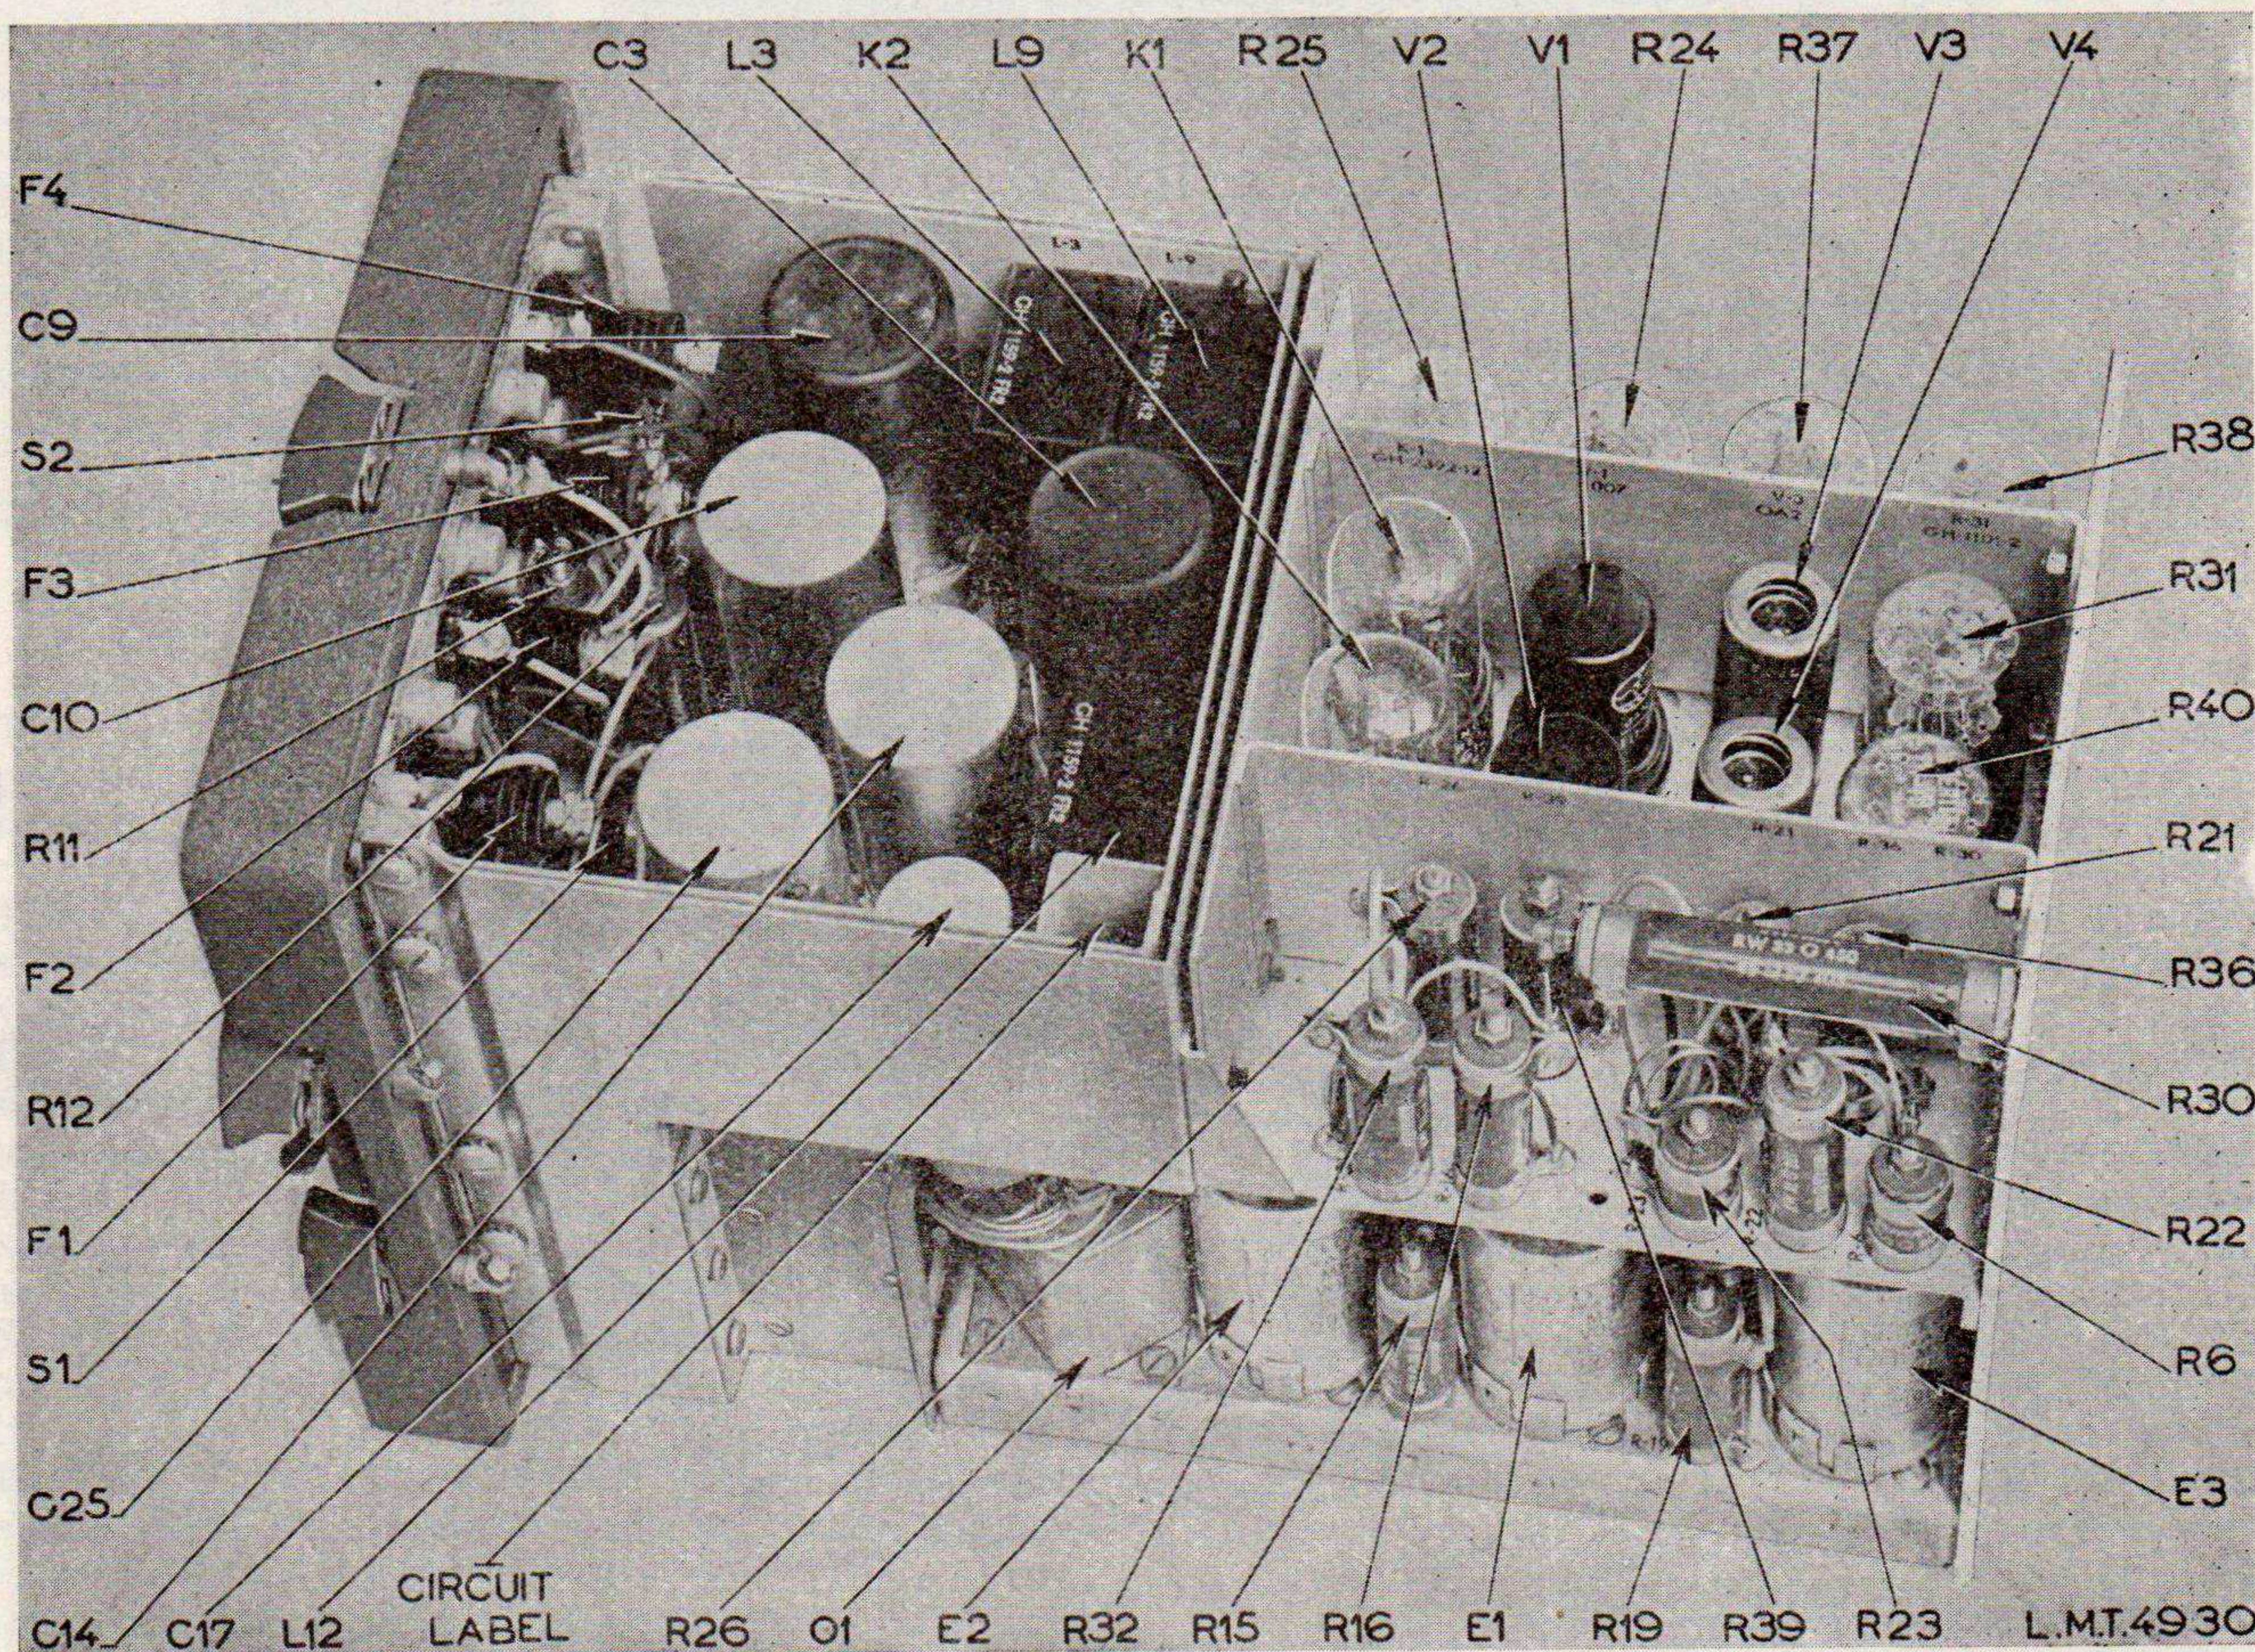
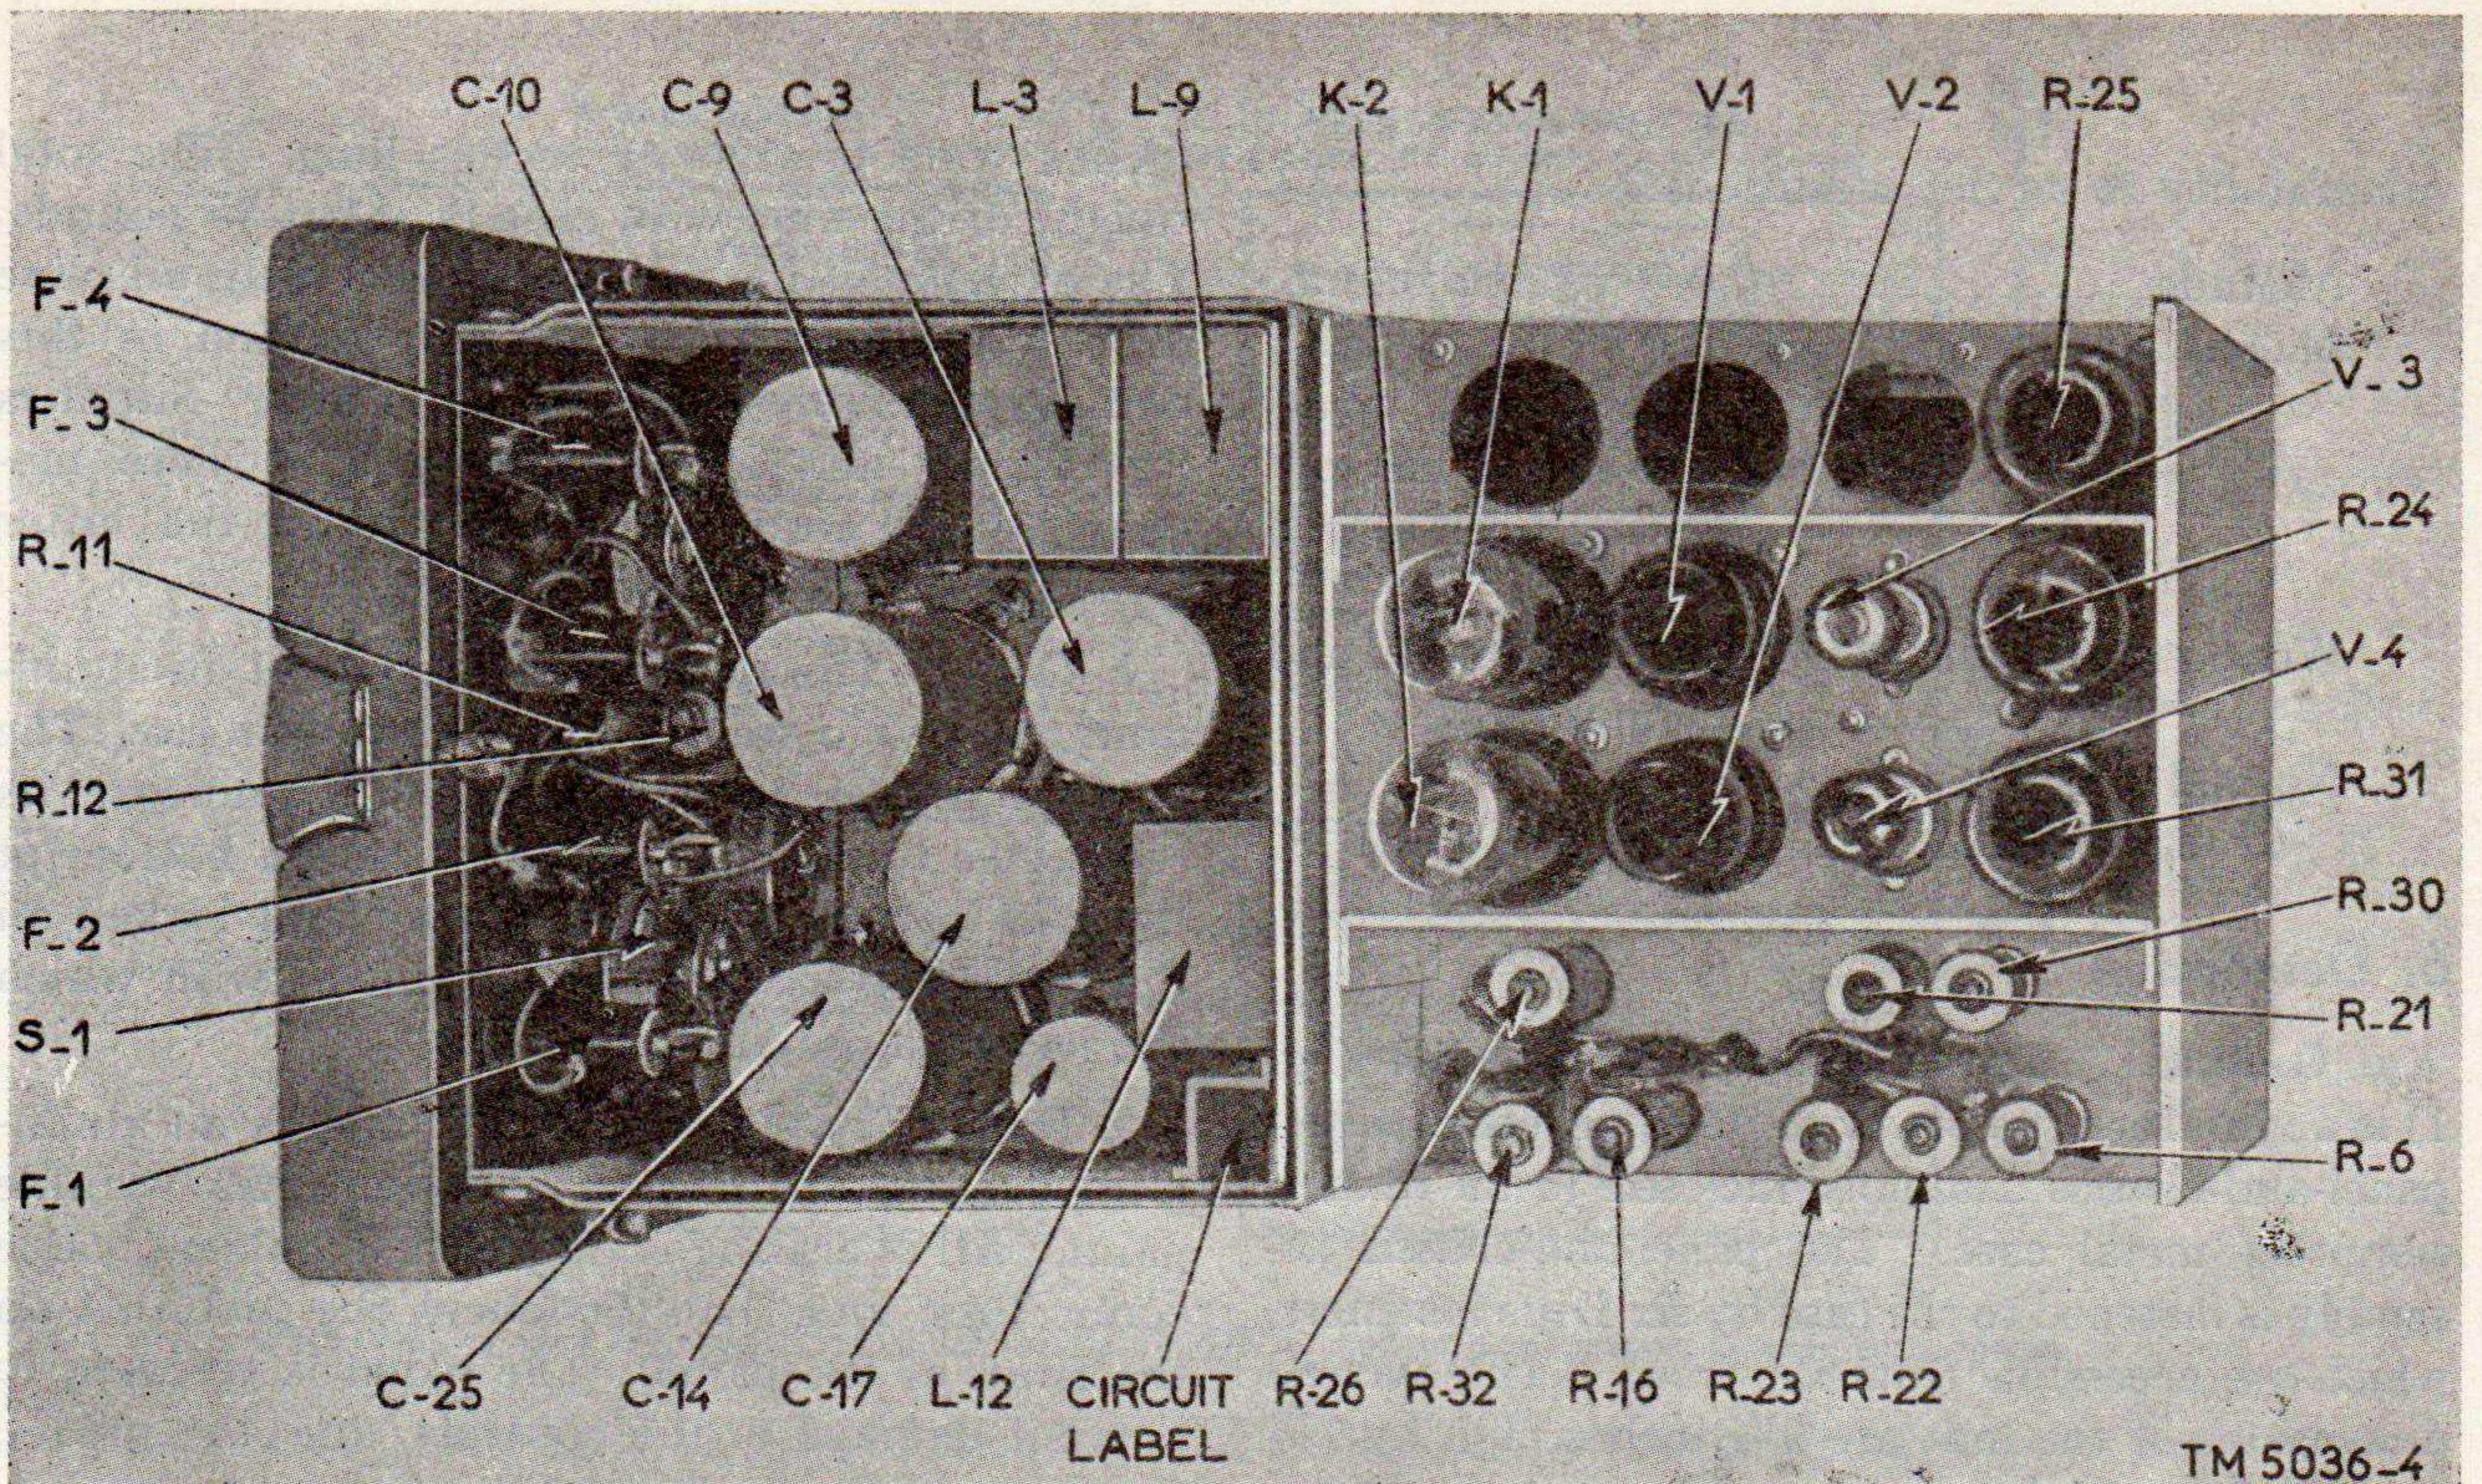
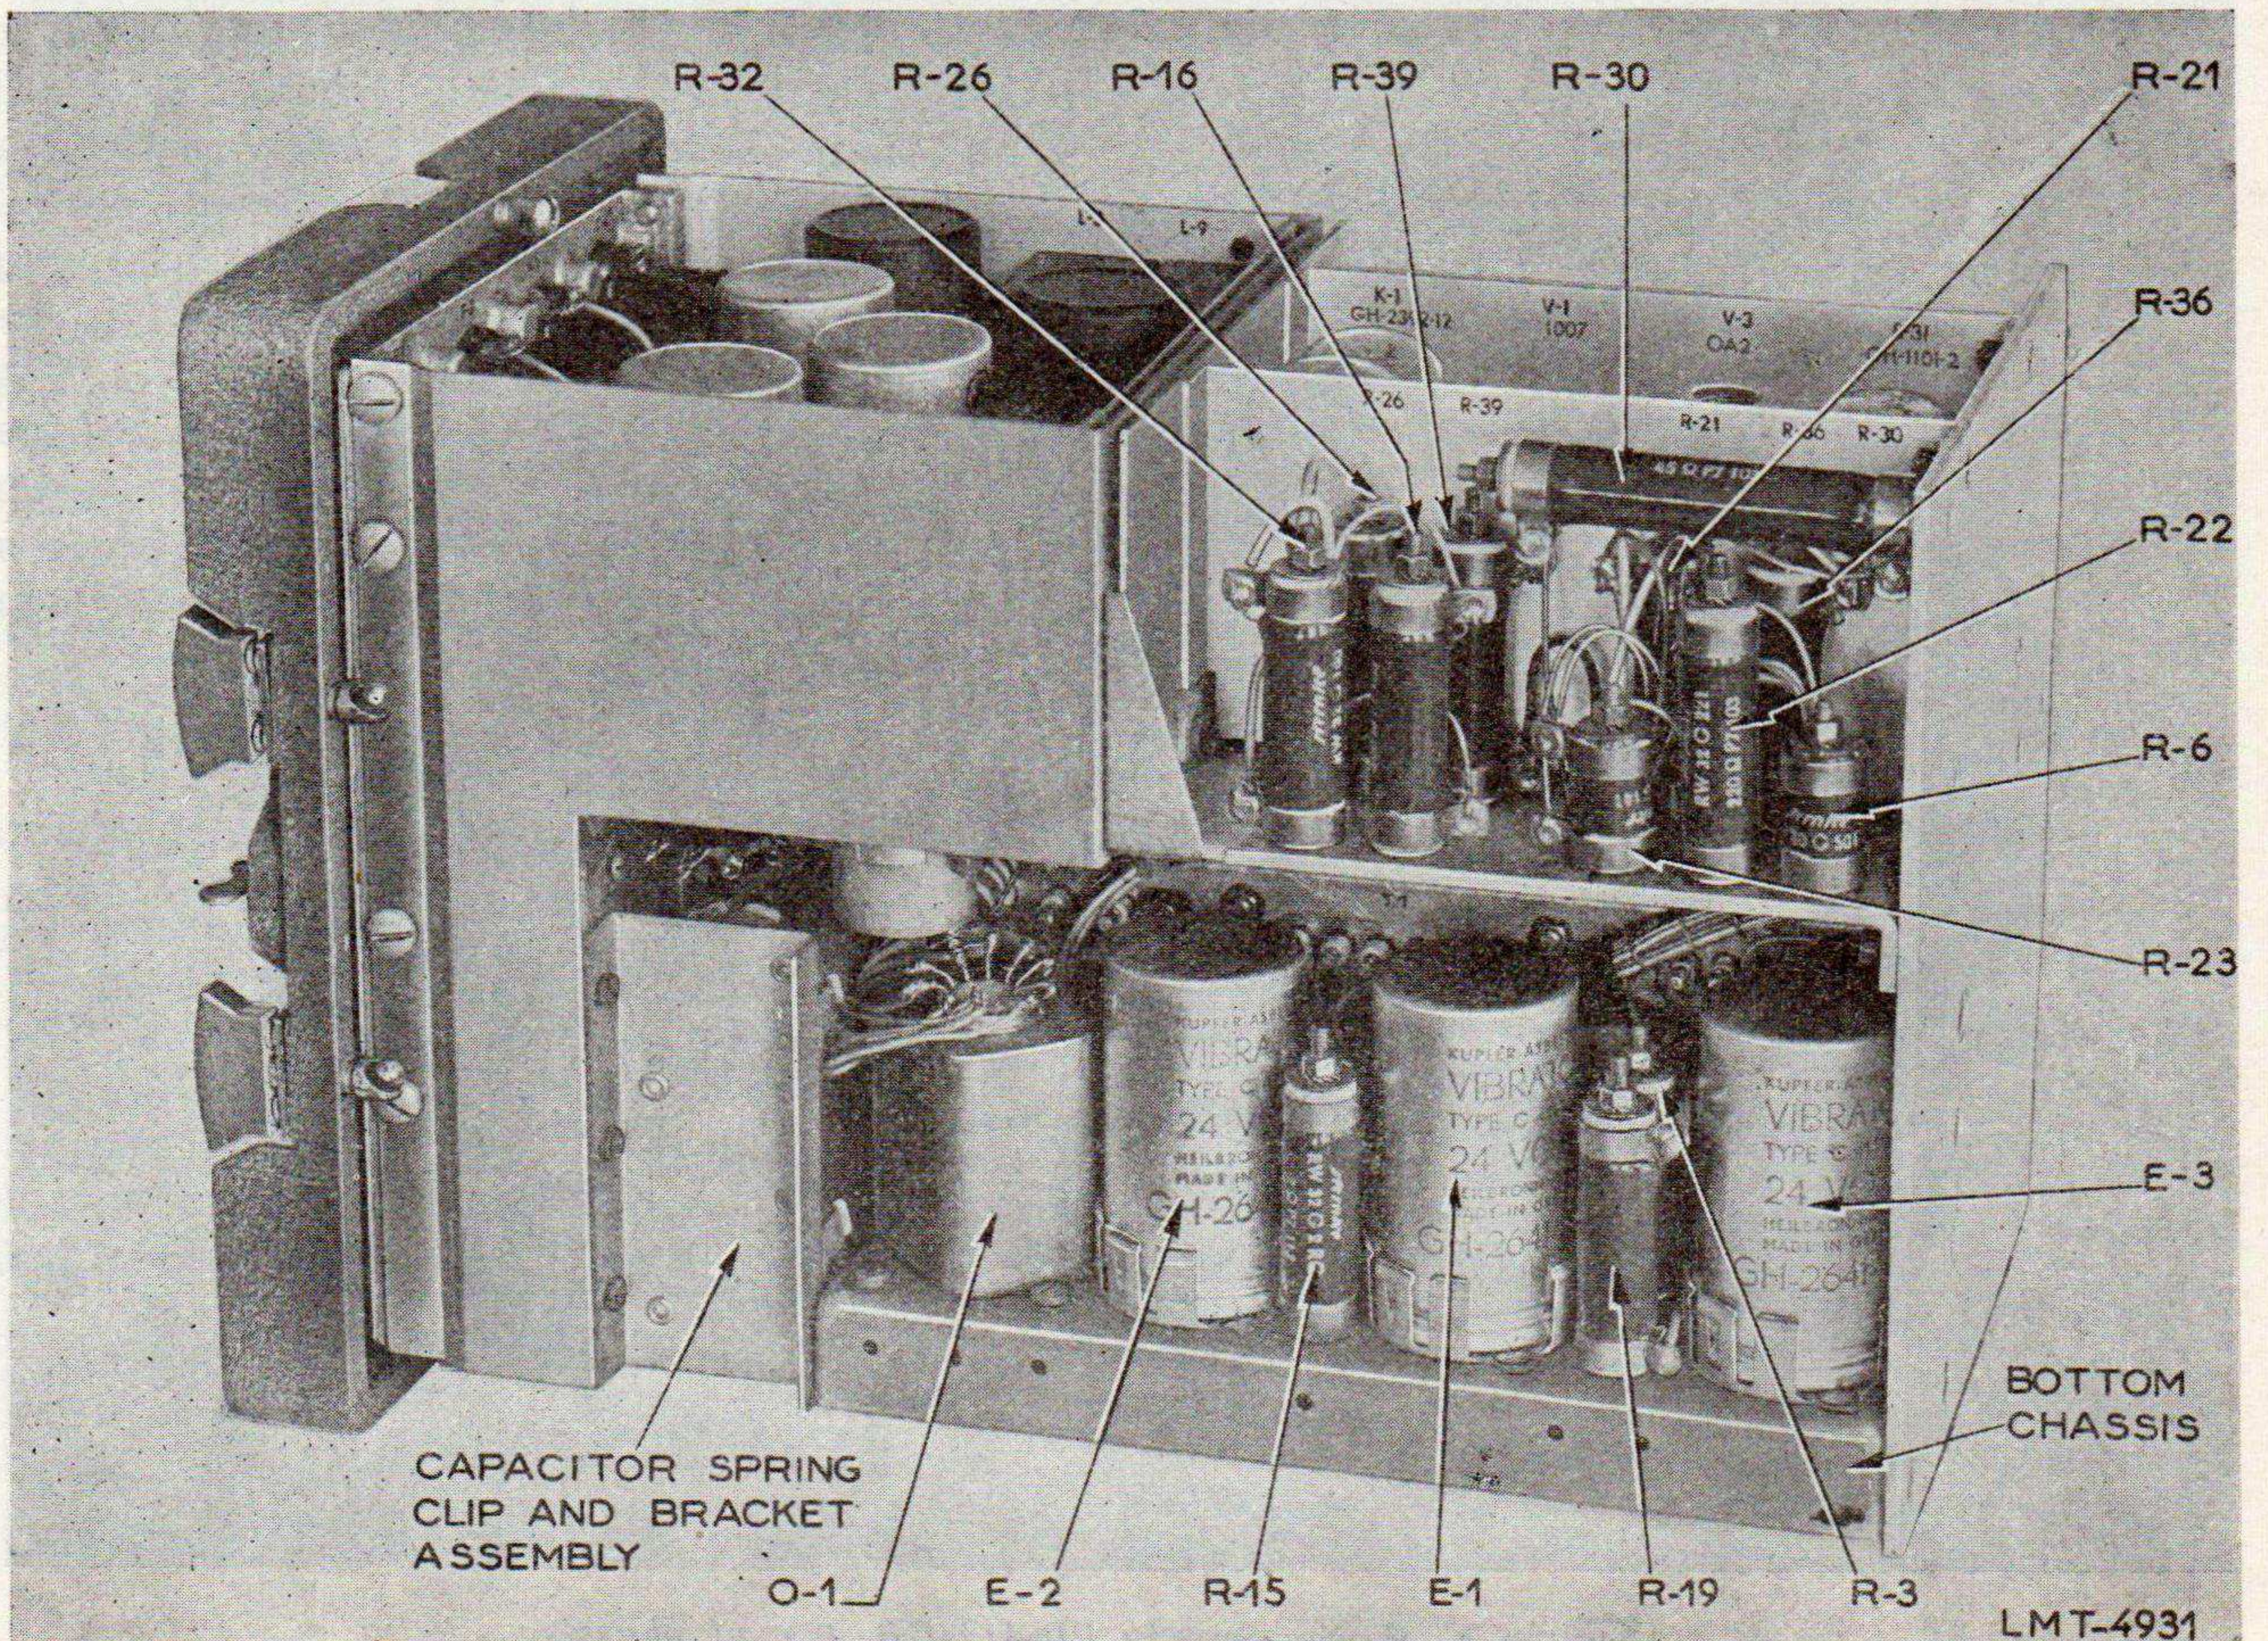
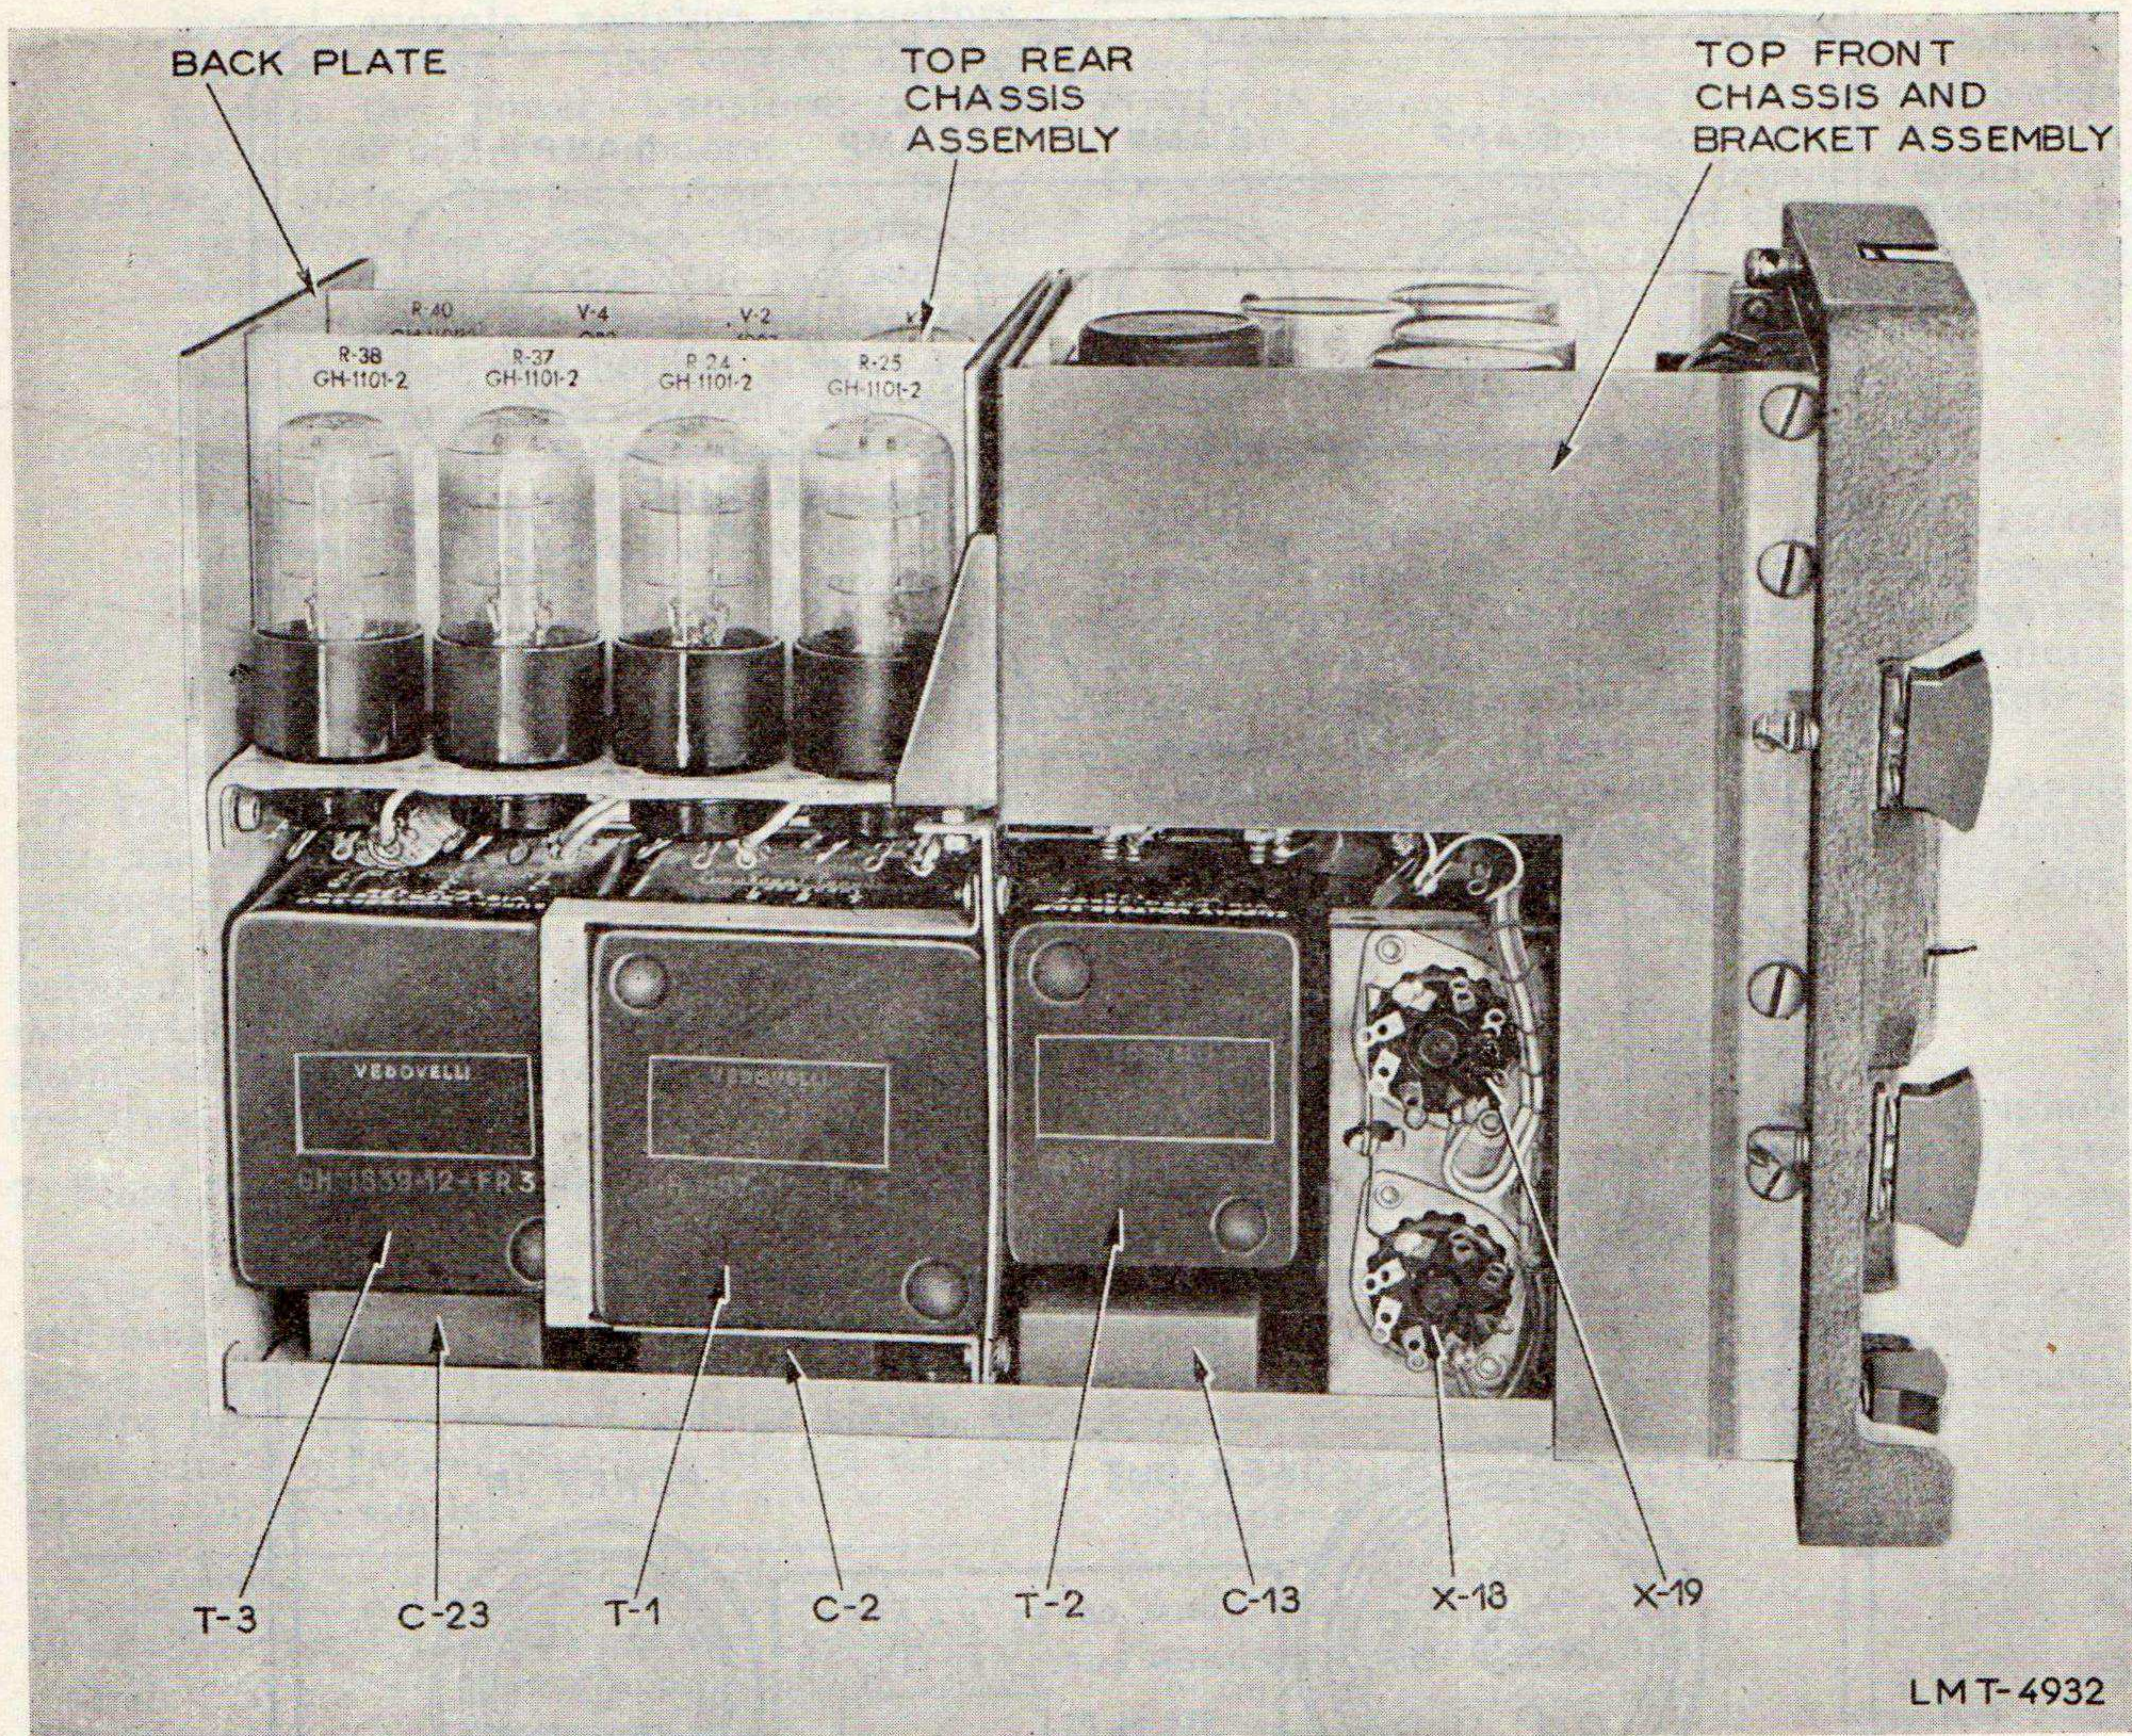

Figure 3 Power Supply PP-112/GR, top of chassis.
Figure 4. Power Supply PP-109/GR, top of chassis.
Figure 5. Power Supply PP-112/GR, right-hand side view.
Figure 6. Power Supply PP-112/GR, left-hand side view.
d. CHASSIS ASSEMBLY (figs. 3 through 6, 10, and 11). A top view of Power Supply PP-112/GR without cover is shown in figure 3. A similar view of Power Supply PP-109/GR is shown in figure 4. A comparison of these two figures shows that the two units are nearly alike in appearance, except for the number of ballast tubes and the number and size of resistors. The side views of Power Supply PP-112/GR (figs. 5 and 6) are equally representative of Power Supply PP-109/GR, except for the differences noted in figures 3 and 4. Bottom views of the two power supplies are shown in figures 10 and 11. The chassis assembly is composed of several sections, as follows:
and an outer bracket (fig. 6). On the chassis are mounted the large electrolytic capacitors and the chokes composing the a-c (alternating-current) ripple filter assembly (fig. 3). The bracket mounts a shelf for two large plug-in type electrolytic capacitors (C-27 and C-30) and a removable clamp assembly for retaining these capacitors in their sockets under vibration stresses (figs. 10 and 11). The chassis and the outer bracket provide air space around the filter components to insulate them from the heat produced by the tubes and large resistors mounted on the rear of the chassis assembly. A recess in the portion of the bracket facing the front panel serves to inclose the panel-mounted components and to mount the r-f (radio-frequency) filter assembly (fig. 12).
(2) *Rear chassis assembly.* The rear chassis assembly consists of a chassis and rear plate (figs. 3, 6, and 12). The chassis mounts the heat-producing parts of the power supply, namely, the ballast tubes, thermal relays, rectifier tubes, voltage regulator tubes, and most of the large resistors. Small angle brackets attach the chassis to the bracket around the front chassis (see (1) above). The chassis is made of heavy aluminum and is attached to the back plate to facilitate heat conduction toward the rear of the unit and away from the front chassis components. The top of the rear chassis is separated into three compartments
(3) *Bottom chassis assembly.* The removable bottom chassis assembly, mounted below the front and rear chassis, is attached by means of machine screws to the lower vertical portion of the outer bracket and to the back plate. The bottom chassis consists of a horizontal bracket and a vertical bracket (figs. 5, 6, and 12). The top of the horizontal bracket mounts the vibrators, the relay, and some resistors. The bottom of this
(4) *Back plate.* The back plate is a heavy aluminum plate which dissipates the heat conducted to it by the rear chassis, as described in (2) above, and also helps hold the rear and bottom chassis together to form a rigid assembly (fig. 6).